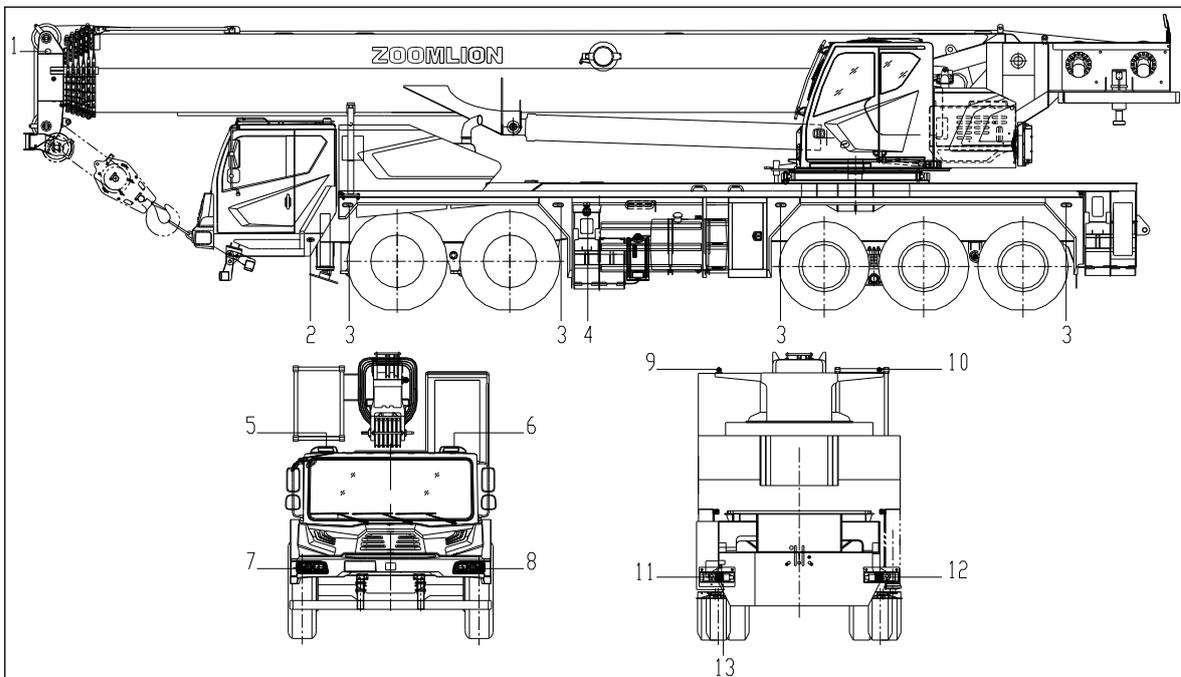

Figure 3-28 Vehicle lighting
- Turn the ignition starter switch to the "ACC" position, and examine the lighting before setting off. Refer to Figure 3-28.